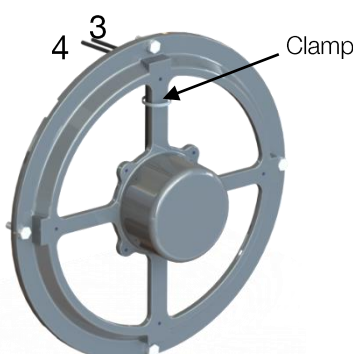

Figure 14.38: PMG cables binding
- 4) Bind the connecting cables (3 and 4) of PMG with the polyamide clamp 6.6 in the back cover, according to Figure 14.38.